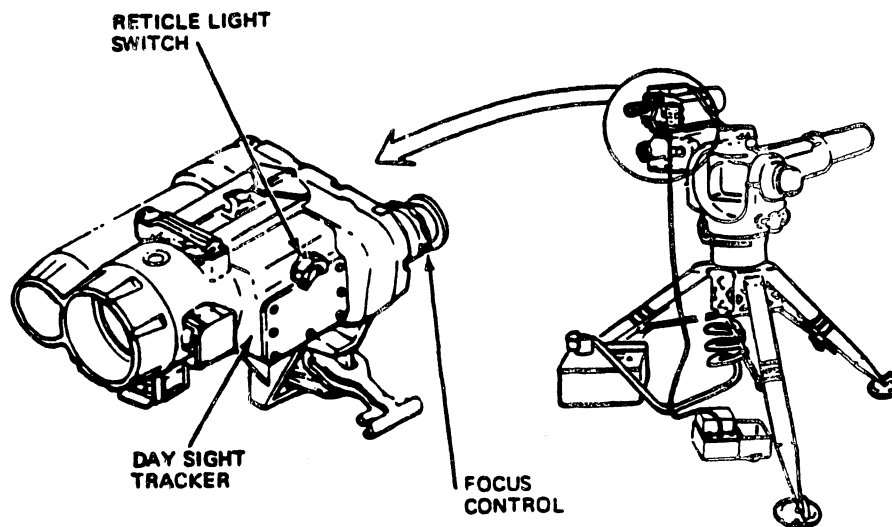

Fig 3-15. Day sight tracker (mounted).
Step 1. Set the focus control to - 0+ and the RETICLE LIGHT switch to ON on the day sight tracker and adjust the focus control while looking into the eyepiece for sharp crosshairs (fig 3-15).